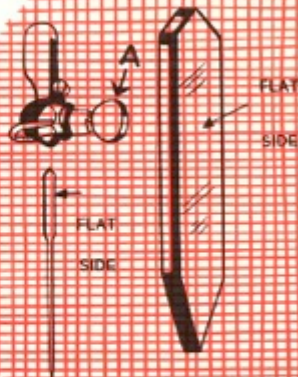

Fig. 3
To replace the needle, raise the needle bar to its highest point by turning the balance wheel (Fig. 3) **TOWARD YOU** by hand. Loosen the needle clamp screw (A) on the right hand side and the needle clamp will open, allowing the old needle to fall out.